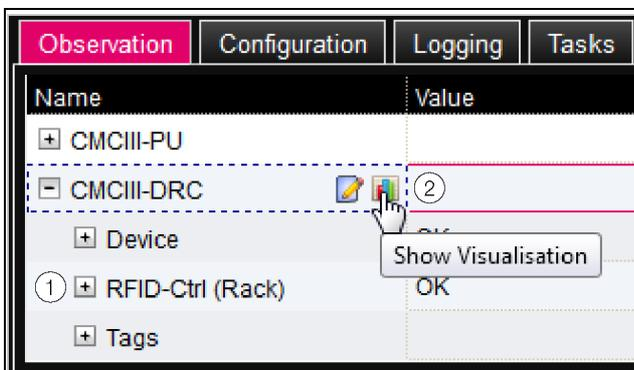

Fig. 13: Tree view
After selecting the "CMCIII-DRC" level, if the lower-level "Device", "RFD-Ctrl" and "Tags" entries are displayed (fig. 13, item 1), switch to the graphical display as follows:
- Click the coloured "graph" symbol after the "CMCIII-DRC" entry, which resembles a stylised bar graph (fig. 13, item 2).
The display changes to the tree view (fig. 13) and you can access the specific individual settings.